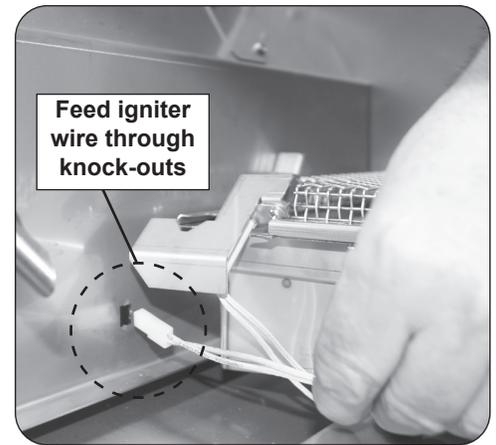

Fig. 5-1 Feed electrode wire
5. Locate the electrode wire coming from the electrode assembly mounted onto the infrared burner, and feed the wire through the newly exposed holes on the firewalls. See Fig. 5-1.